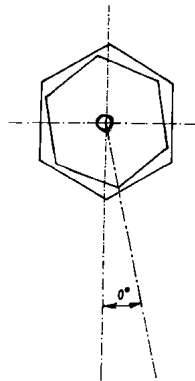

Fig. 7.6
- 2. The angular position of the hexagonal opening and the angular position of the hexagonal key do not mate: The walls of the hexagonal key are not parallel to the hexagonal socket (see Fig. 7.6).**
It is assumed the walls of the hexagonal key are parallel to the hexagonal socket (see Point 2 and Fig. 7.6).